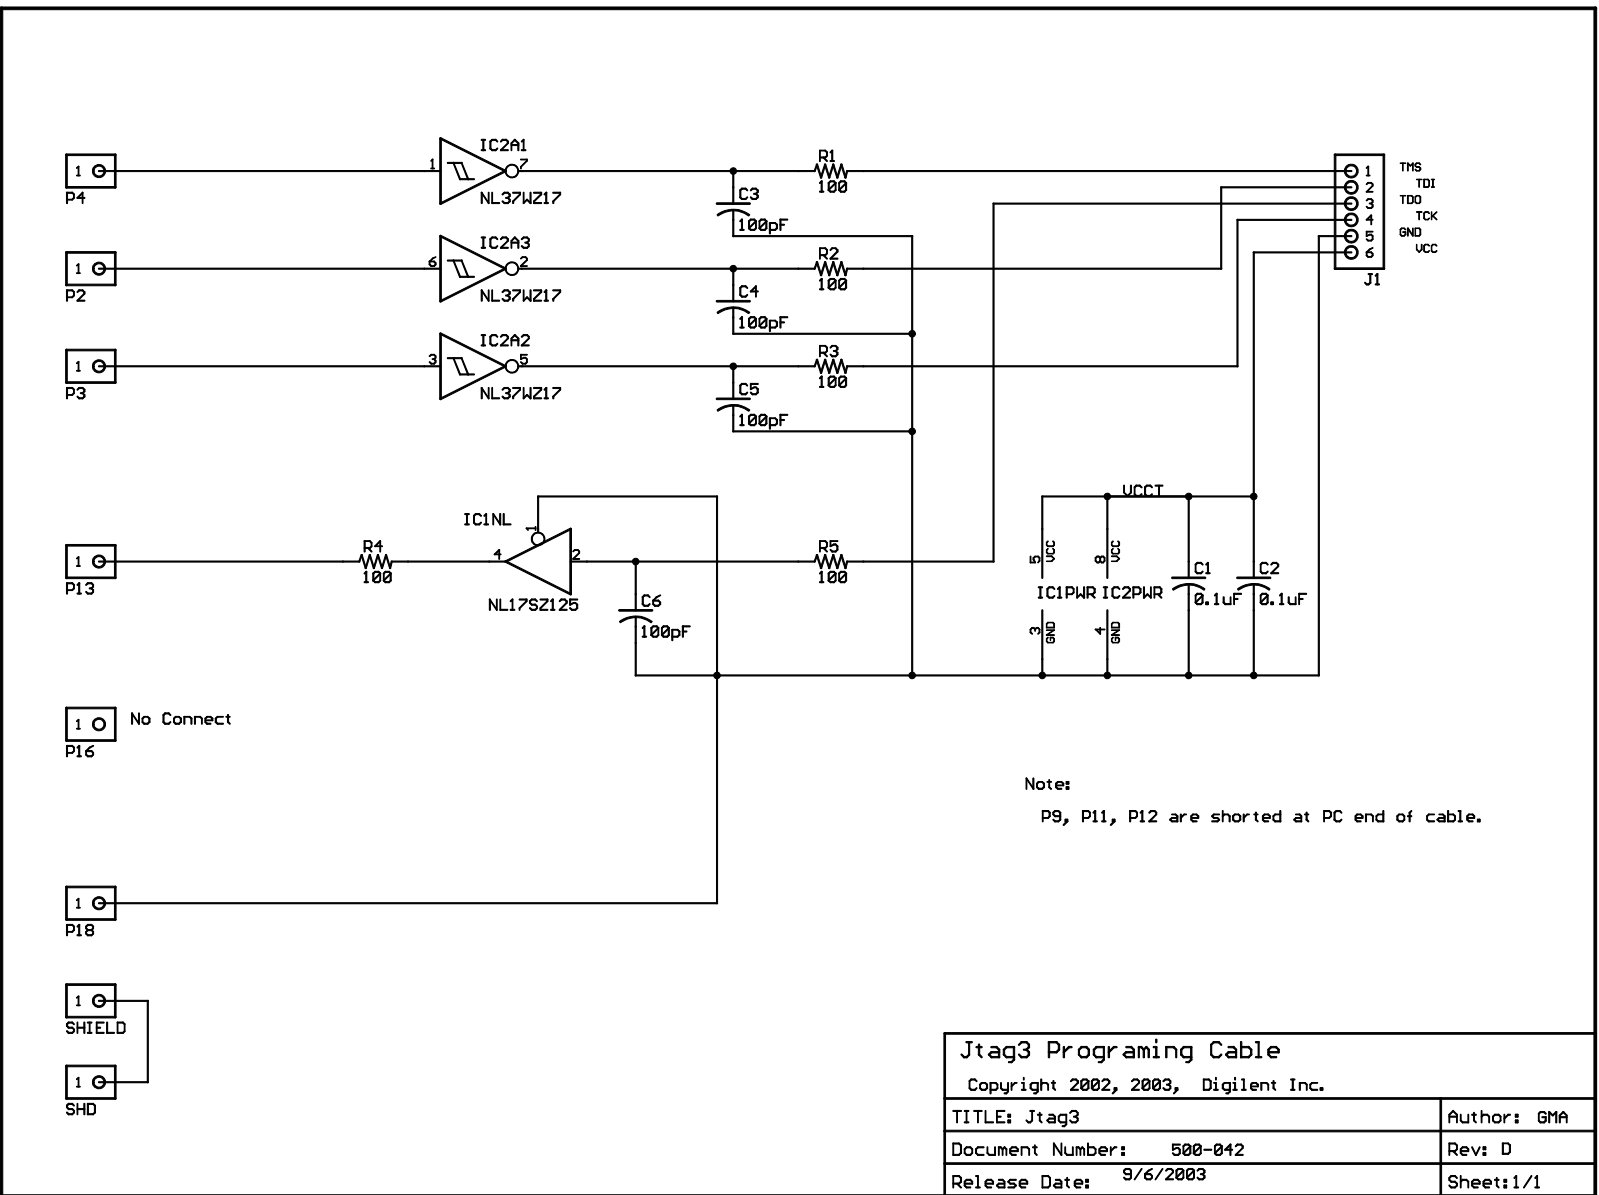

Figure A-9: Digilent JTAG3 Low-Cost JTAG Download/Debug Cable
- Figure A-9, "Digilent JTAG3 Low-Cost JTAG Download/Debug Cable"